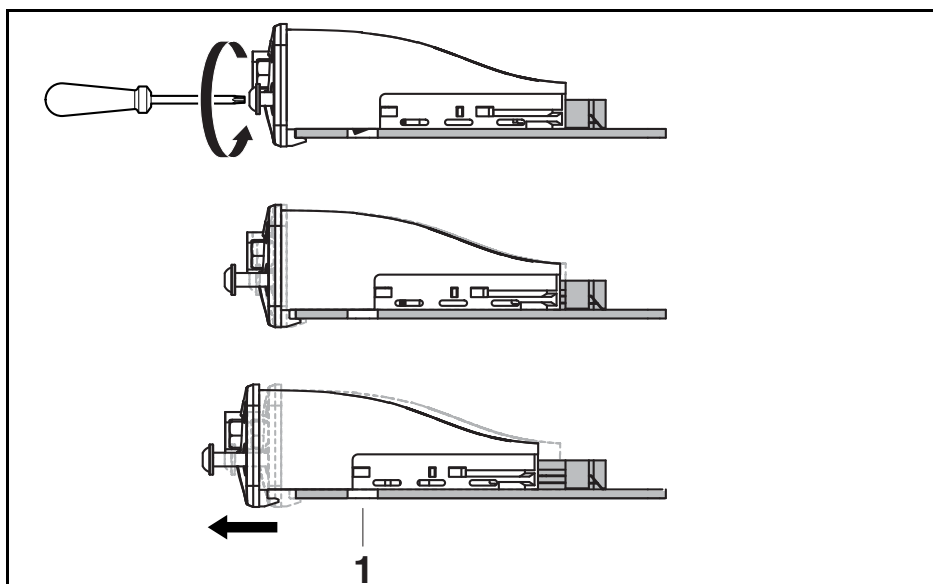

Abb. 4: Releasing the lock
2. Loosen the front torx screws. The IMpnio2 interface module may only be removed once the lock has been completely released (see Fig. 4).